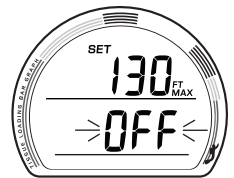

Fig. 32 - SET DEPTH ALARM
**SET DEPTH ALARM**, information includes (Fig. 32):